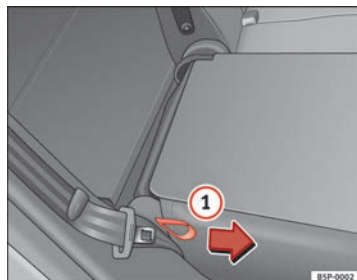

Fig. 99 Folding or opening the rear seat backrests
- Pull the loop on the side of the seat ⇒ Fig. 99 ①